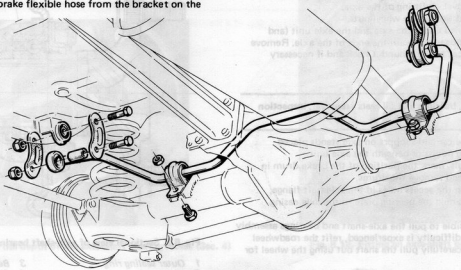

Fig. 8.5. Location of anti-roll bar (Sec. 2)
6. Undo and remove the nuts and bolts securing the anti-roll bar to the rear axle (Fig. 8.5).